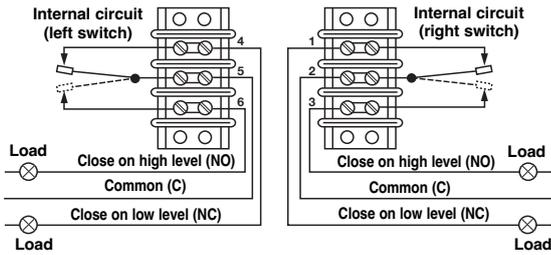

Figure 18
1. Rising level closes contacts 5 & 6 and 2 & 3, see Figure 18.